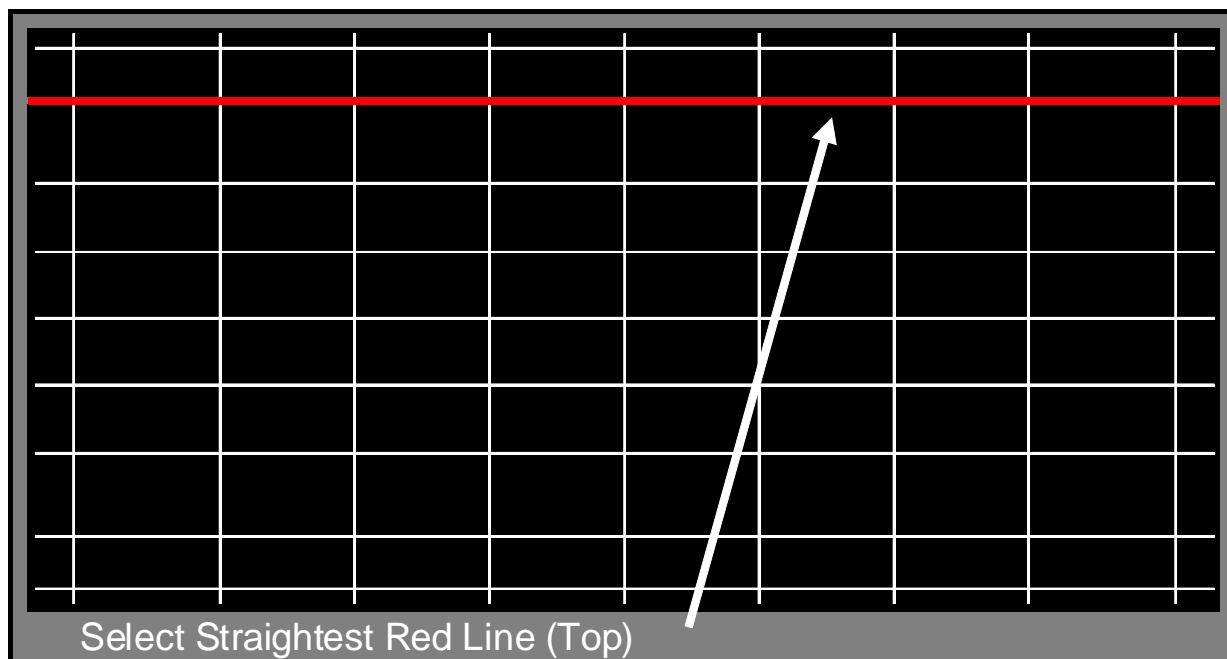

Figure 3: Top Letter Box Mode Pattern
10. Press "VIDEO" to activate the Top Letter Box alignment mode, refer to *Figure 3*.